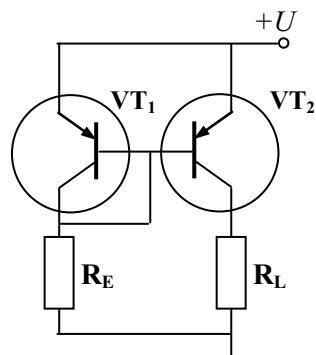

Fig. 2.25
**Current reflector.** The circuit shown in Fig. 2.25 is called a *current reflector* in the case of the full identity of  $\mathbf{T}_1$  and  $\mathbf{T}_2$  parameters.  $\mathbf{T}_1$  is connected as a diode. Thanks to the joined bases, the voltages  $U_{BE}$  are equal, therefore